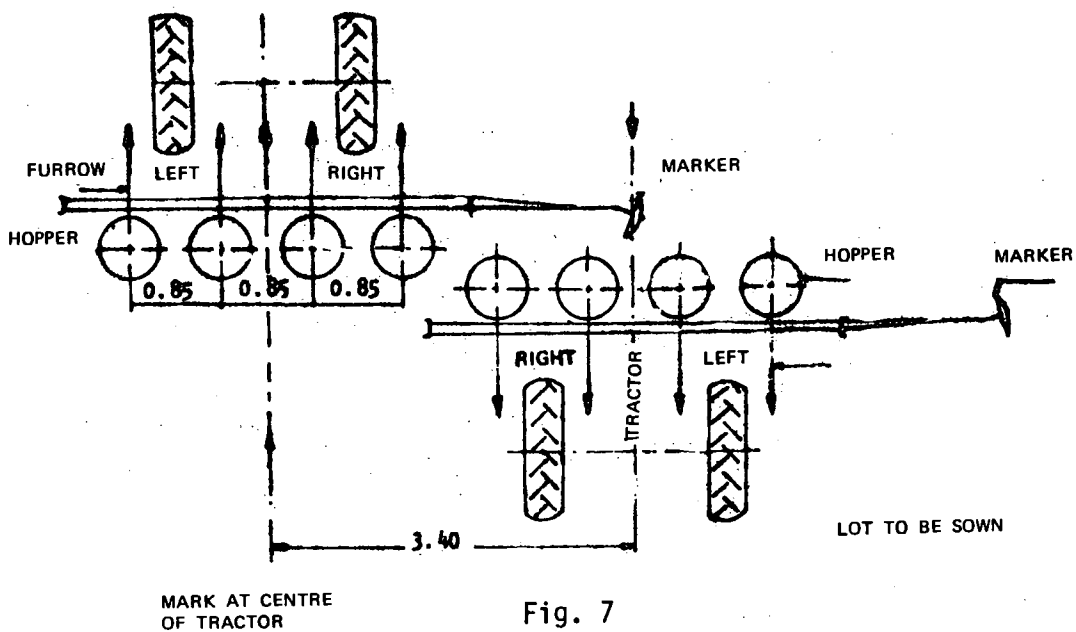

Fig. 7
- For marking, the centre of the tractor should be at a distance equal to four times the distance between furrows (Fig. 7).